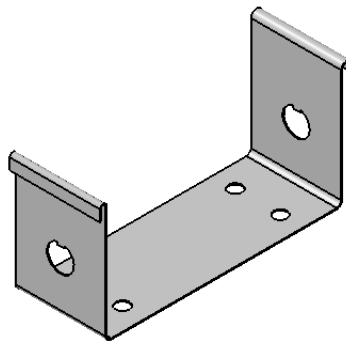

*Figure 15-130 Model after creating two hems*
- e. Create hems on the two flanges and then create the two keyways by using the cutout tool, refer to Figure 15-130 and 15-131.
6. Similarly, create the hem on the other flange. The sheet metal component, after creating the two hems is shown in Figure 15-130.